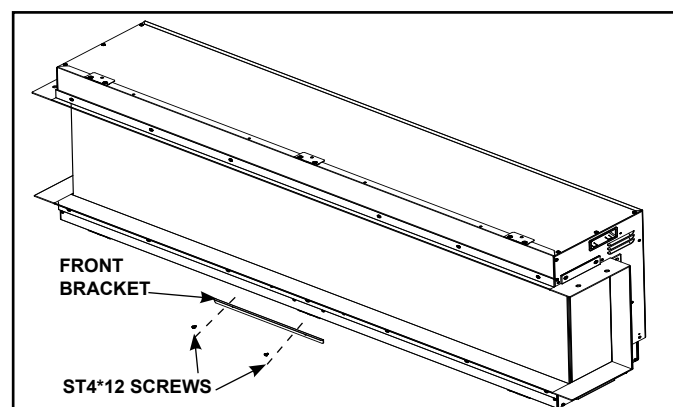

Figure 11
3. Attach the front bracket to the appliance using two (2) ST4*12 screws. See Figure 11.